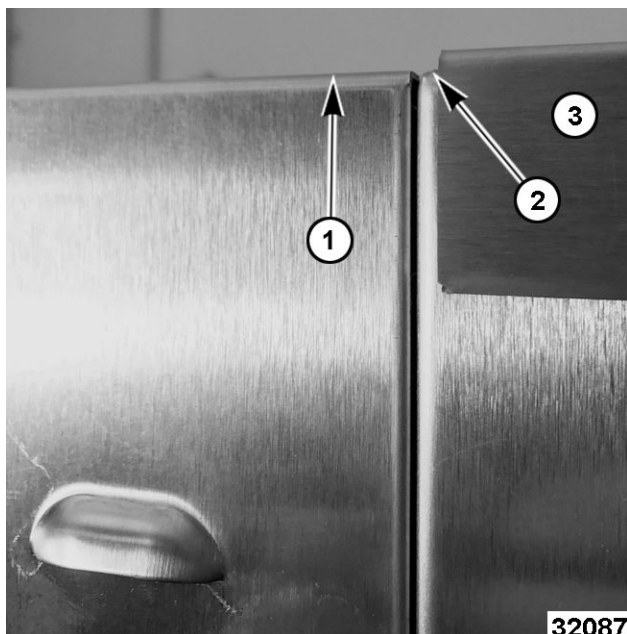

Fig. 108
1. Visually check to see if control panel (1, Fig. 108) is flush with the frame (2, Fig. 108) of the oven along the top (Fig. 107) and side. **Not** with the top trim (3, Fig. 108).